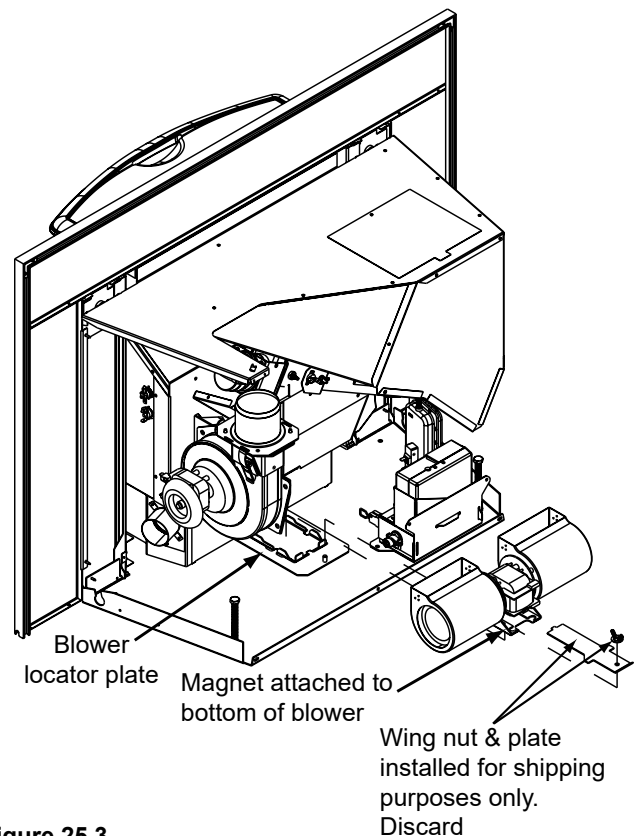

Figure 25.3
- Remove left access panel and then slide out left side panel of appliance to expose the convection blower. Loosen wing nut on the vacuum switch and remove vacuum switch to allow room to remove the blower (**Figure 25.3**).